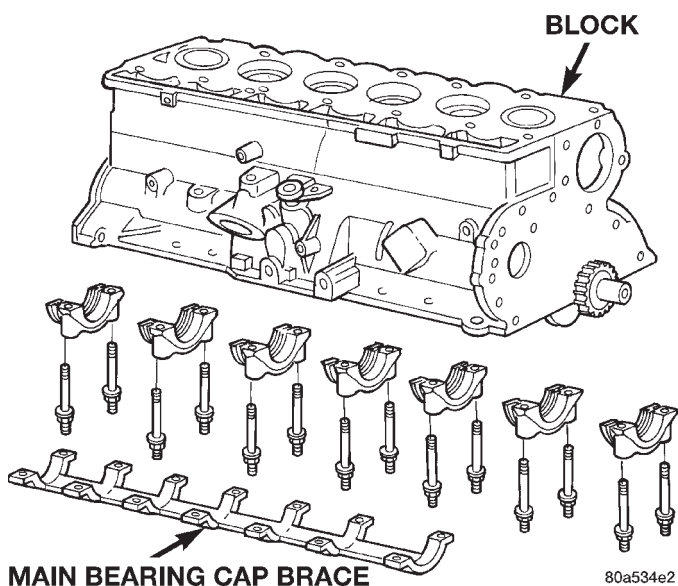

Fig. 51 Main Bearing Caps and Brace.
- (1) Disconnect negative cable from battery.
- (2) Remove the spark plugs.
- (3) Raise the vehicle.
- (4) Remove the oil pan and oil pump.
- (5) Remove main bearing cap brace (Fig. 51).